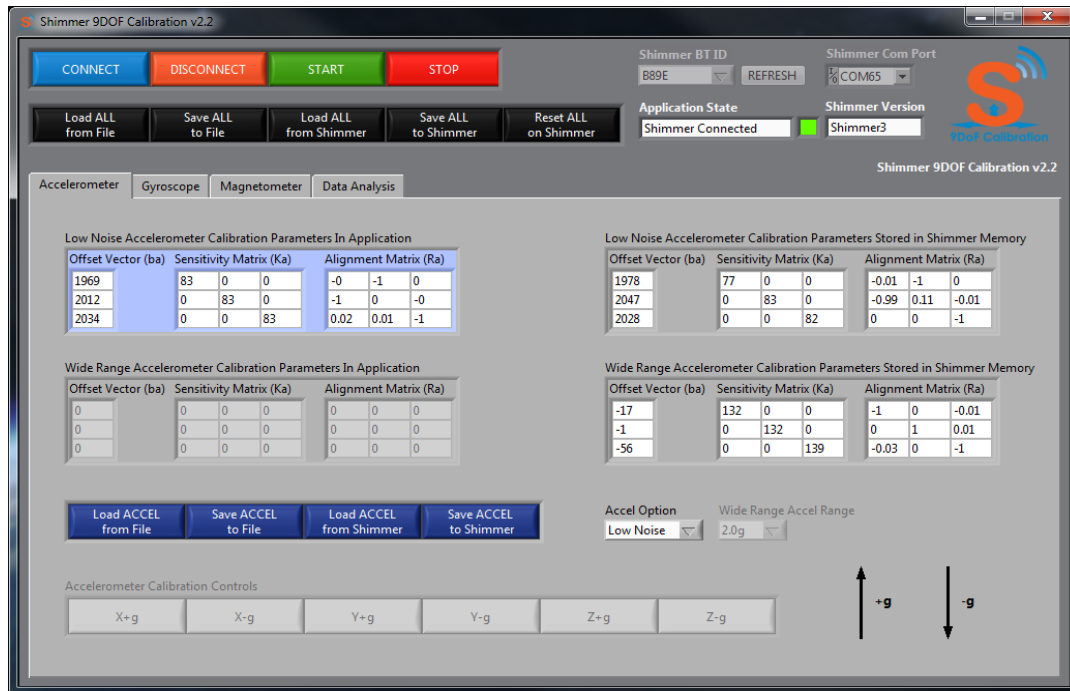

Figure 7-2 GUI during Step 1 of 6 in the accelerometer calibration
- **Step 1 of 6** – Place the Shimmer on the surface such that the positive **X-axis is pointing in the direction of the gravity vector (vertically up)**. With the Shimmer held static press the **X+g** button (which should turn green) on the GUI. Hold the Shimmer in this position; perfectly still, until the **X+g** button turns off automatically. See Figure 7-2.